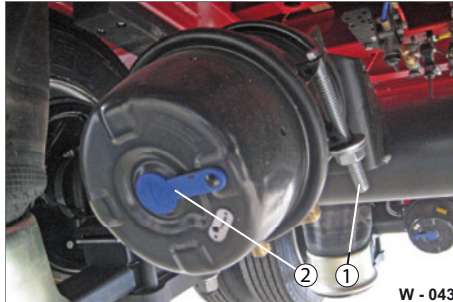

Fig. 46 Spring-loaded diaphragm cylinder
When the trailer is ready to be driven, the release screw (Fig. 46/1) must be fixed in place in a location provided for the purpose.
The end cap (Fig. 46/2) covers the hole in the cover of the spring accumulator diaphragm cylinder.
- ▶ Fix the release screw to the diaphragm cylinder in the location provided (see Fig. 46).
- ▶ Close the hole with the end cap (Fig. 46/2).